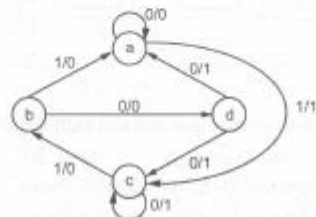

Fig. 17
b) A sequential network has one input and one output. The state diagram is shown in Fig. 17. Design the sequential circuit with T flip flop. [12]